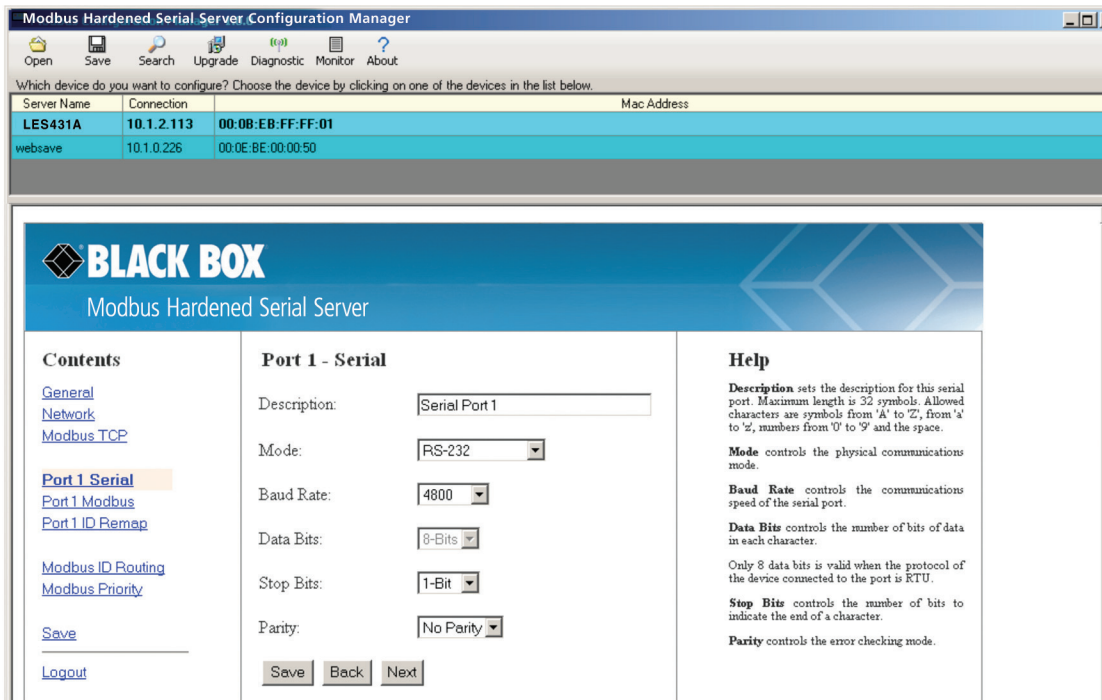

Figure 3-23. Serial Port screen.
10. See the PORT x Serial Settings screen in Figure 3-23.